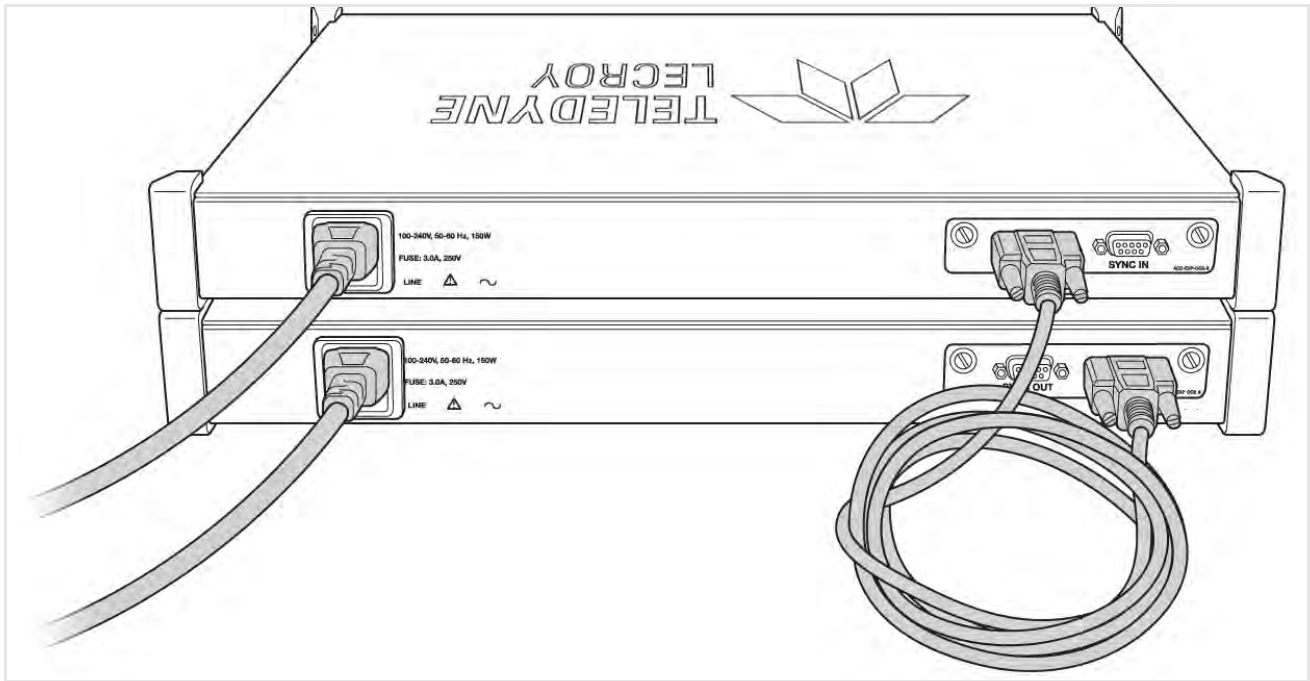

Figure 2.44: An Example of Connecting Two SierraNet M408 Analyzers
3. Connect the male end of the sync cable to the SYNC IN port of the other Analyzer (Figure 2.44).